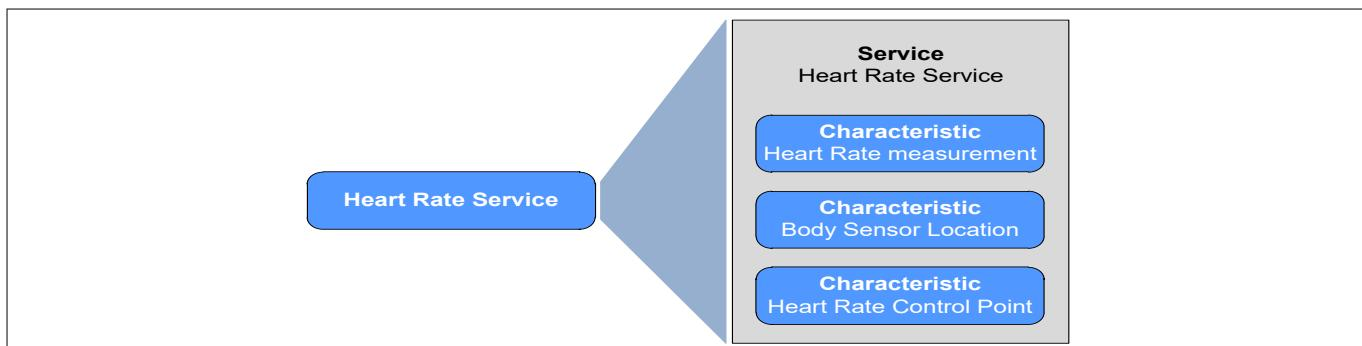

Figure 127 Bluetooth® LE Heart rate service example
- **Service:** The type of attribute that defines a function performed by the GATT Server. A service is a collection of characteristics and can include other services. The concept of a service is used to establish the grouping of relative data and provide a data hierarchy. See Figure 127 for an example of a Heart Rate Service (HRS).